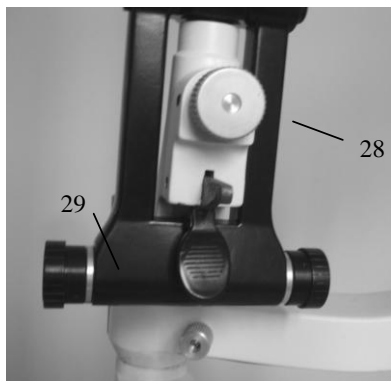

Fig.22
loosen the centering knob (28) and swing the slit width control knob (29) back and forth so the light spot moves away from the center of the microscope vision field .it is mainly used to examine the eyes by indirect retro-illumination .fasten the centering knob and the slit light will return to the center of the microscope vision field .(Fig.22)